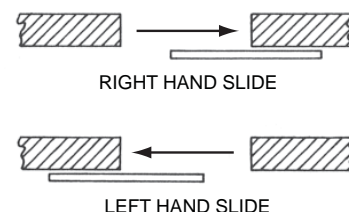

Figure 2. Single Slide Door
(3) **REVIEW THE INSTALLATION DRAWINGS:** The installation drawings show the layout of the door or doors, template drilling for the door and wall, and general terms used to describe components. Review of the drawings will familiarize you with the equipment. To determine the hand of a of single slide doors for operator mounting purposes, stand on the door side of the wall facing through the door opening. If the door slides to your right, it is a right-hand slide door, if it slides to the left, it is a left hand slide door (Figure 2). Mount equipment accordingly.